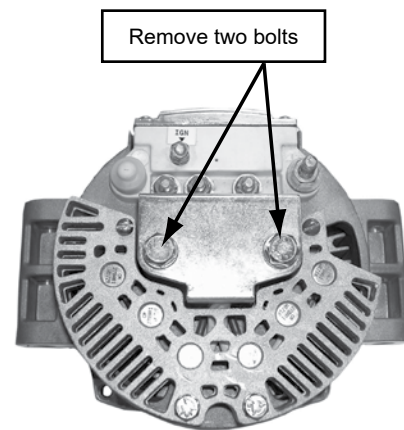

Fig 1
Step 2: Remove negative plate. See Fig 1.